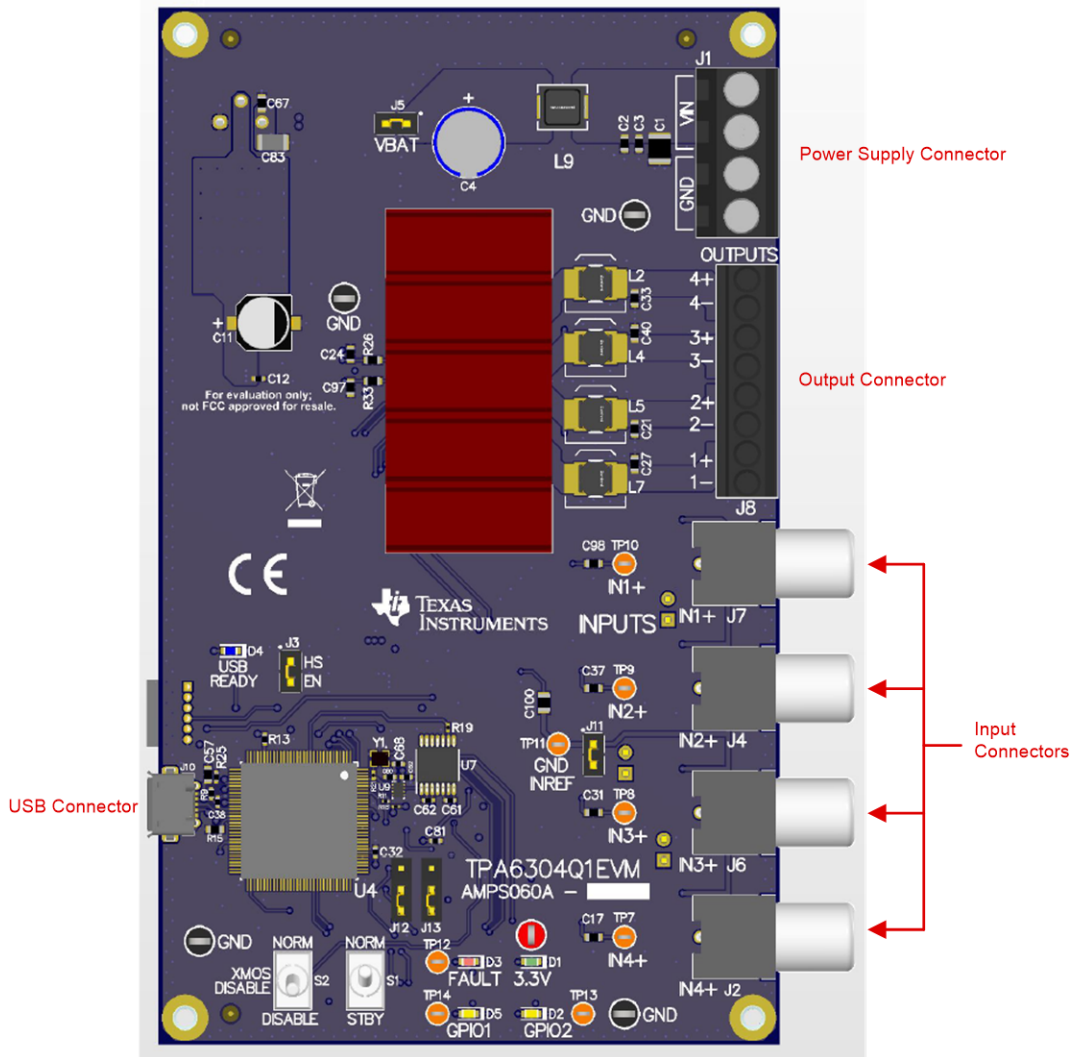

Figure 4-1. TPA6304Q1EVM Connections
- Connect the audio source – this can be a 3-mm stereo connector connected from the PC to the EVM as shown in Figure 4-1